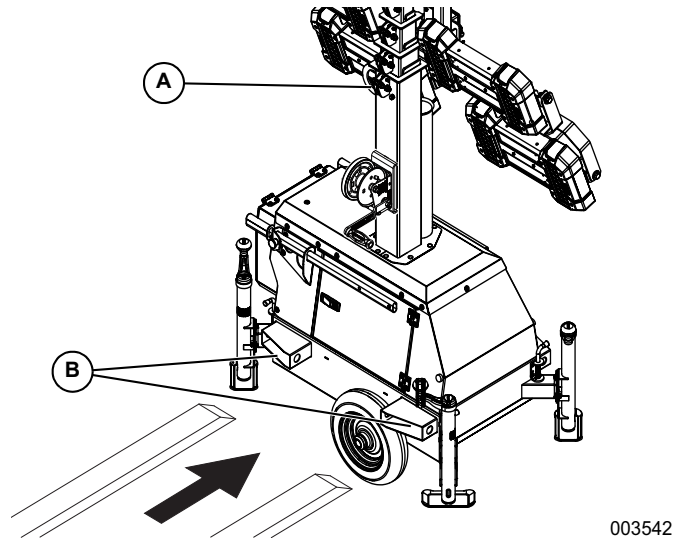

Figure 2-6. Lifting The Unit
5. See Figure 2-6. To lift the unit, use one of the following methods:
- Attach slings, chains or hooks directly to the central lift point (A). Verify the LED fixtures will not be damaged when lifting.
- Use a forklift. Approach the forklift pockets (B) only from the side as shown. Avoid approaching the unit at an angle, as this can permanently damage the forklift pockets, wheels, or cabinet. Make sure any obstructions are clear of the forklift tines before lifting.
See Figure 2-6. Tie-down straps, ropes, or chains may be passed through the forklift pockets (B). The holes in the forklift pockets may also be used to secure the unit for transport.